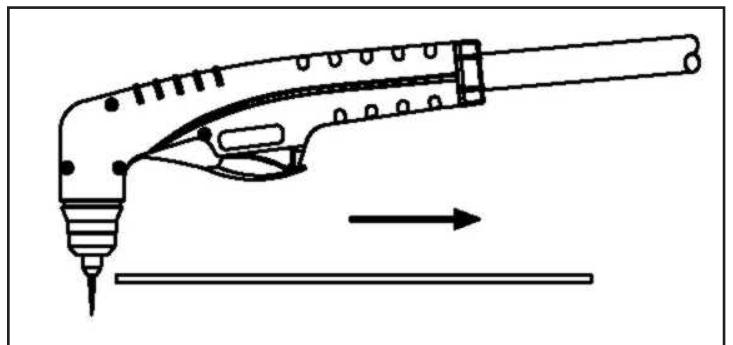

Figure 16
- Select the non-continuous pilot arc mode with the selection key (A) in the control panel.
- For edge starts, hold the torch perpendicular to the workpiece with the front of the tip on the edge of the workpiece at the point where the cut is to start - Fig. 16.